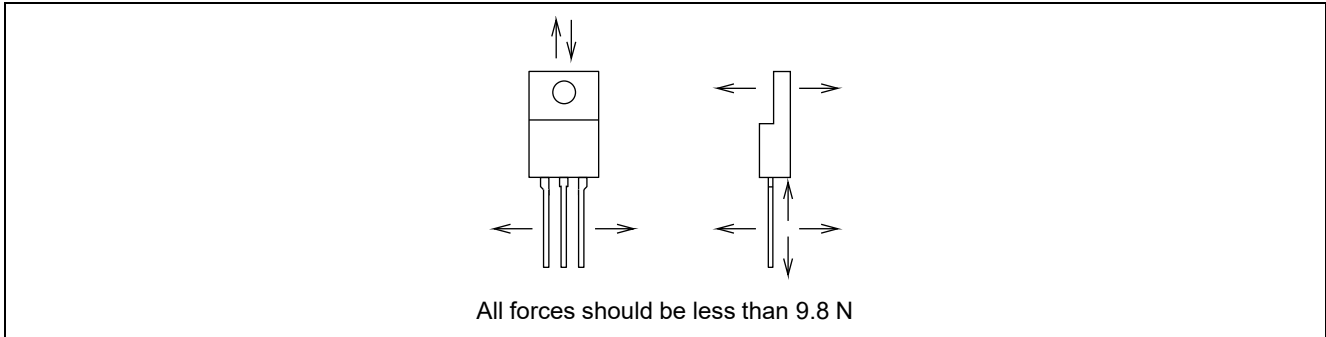

Figure 14 Stress to electrode leads
Excessive stress given to electrode leads in a device may damage the device. The load as shown by the arrow in Figure 14 should be less than 9.8 N.
- It is desirable to use a dedicated forming machine to avoid the stress as shown in Figure 14. Alternatively, prepare two narrow tipped radio pliers, fix the base of the lead by one pliers, and bend the lead on the tip side by another pliers.